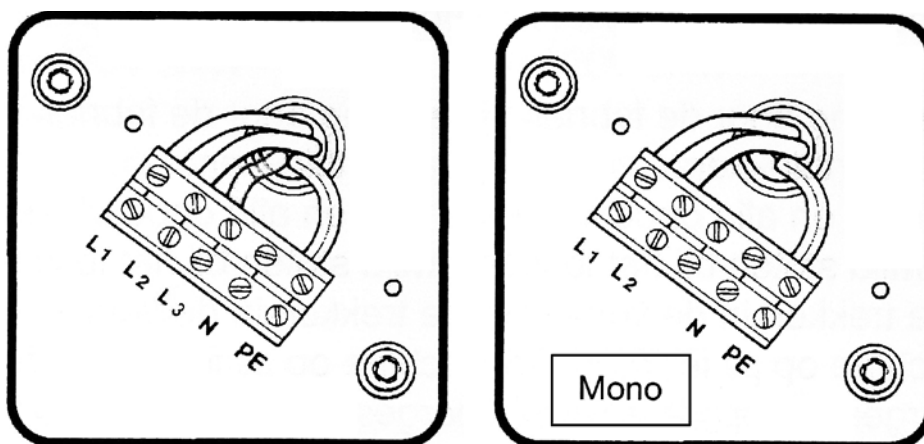

Fig.3
Electrical connections (fig 3)
- Connect the three phases to the terminals marked L1, L2, L3 (fig. 3).